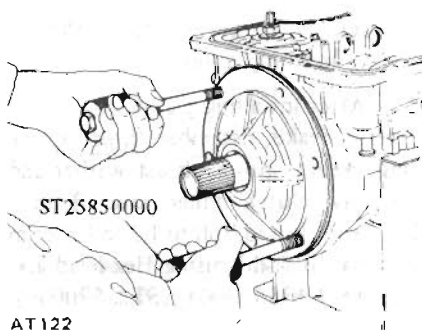

Fig. AT-56 Removing oil pump
8. Withdraw oil pump using Sliding Hammer ST25850000. Do not allow front clutch to come out of position and drop onto floor. See Figure AT-56.